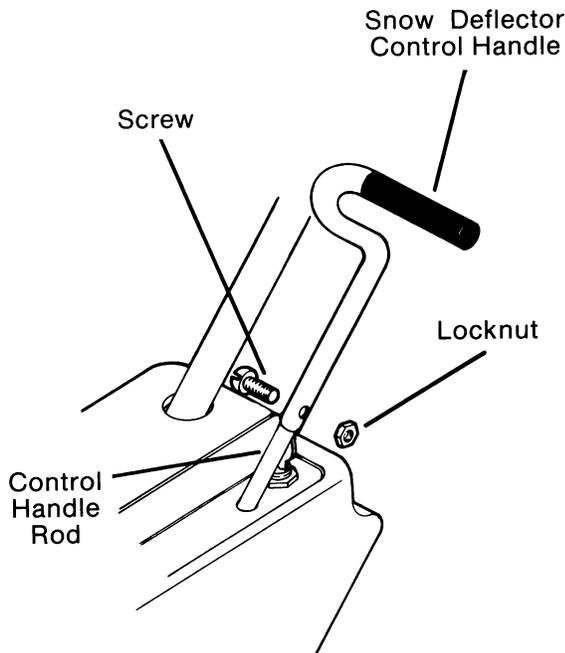

FIG. 25
- C. Remove screw and locknut holding deflector control handle to control rod. (Fig. 25) Remove control handle from rod.